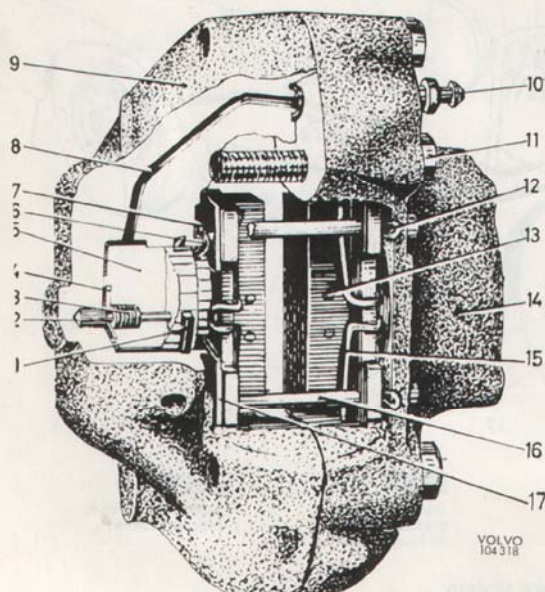

Fig. 5—2. Rear wheel brake caliper
Fig. 5—1 shows the location of the brake components on the rear wheels. The brake disc (11) is of cast iron and is fixed to the drive shaft with which it rotates. The guard plate prevents dirt from reaching the disc.
The rear wheel brake caliper is mounted to the rear axle casing with the help of the retainer. It houses the wheel unit cylinders and brake pads. It consists of a housing divided in two halves (9 and 14, Fig. 5—2) bolted together and located on either side of the brake disc. Each half contains a piston and a cylinder linked by means of a channel in the housing.